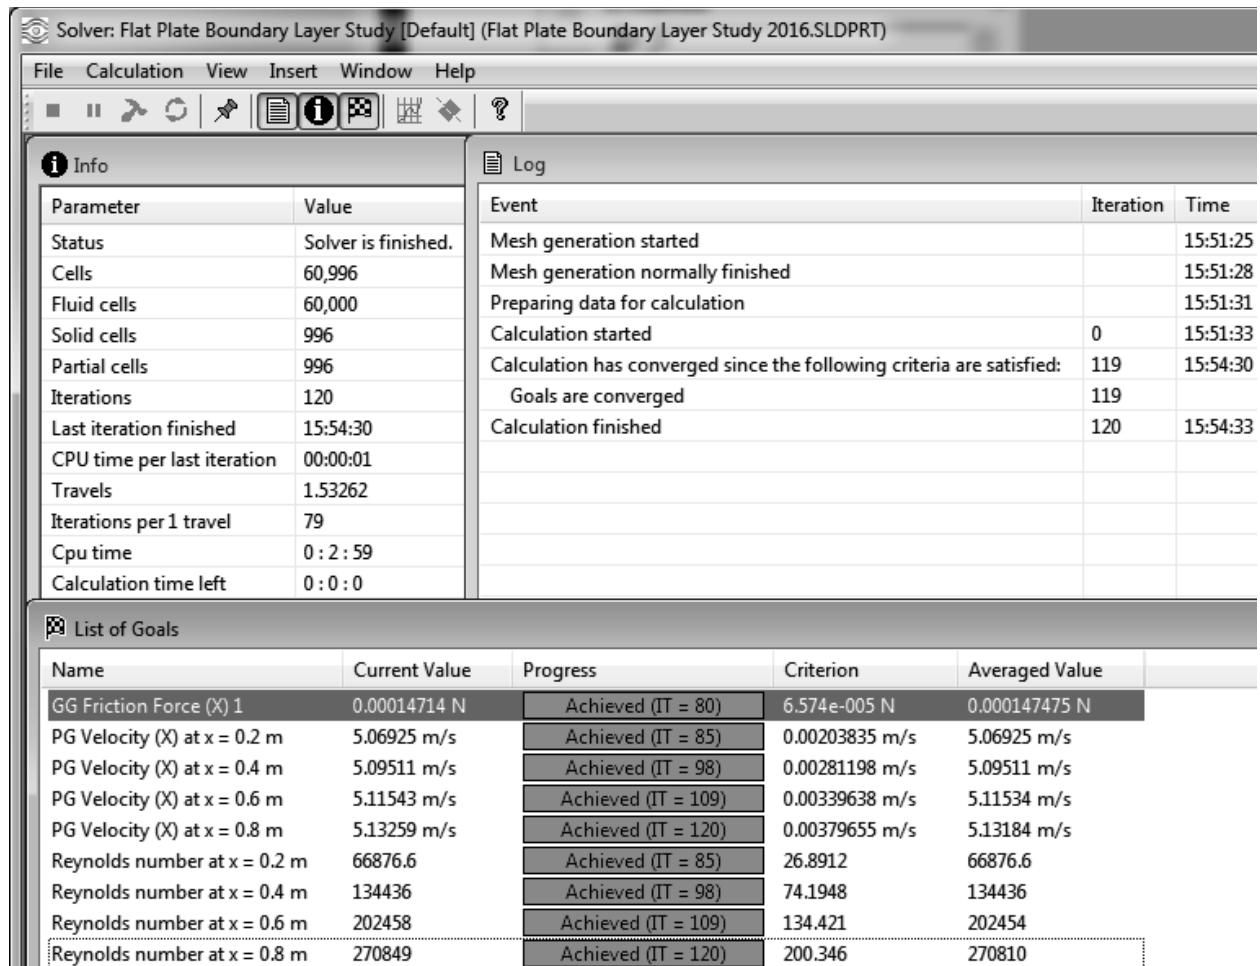
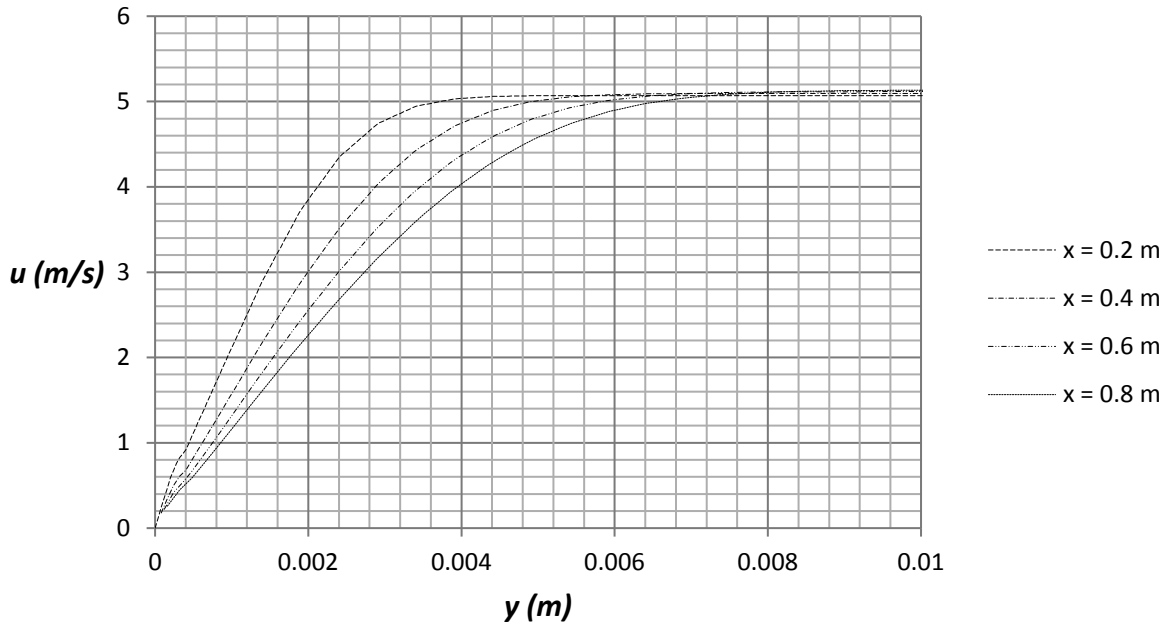
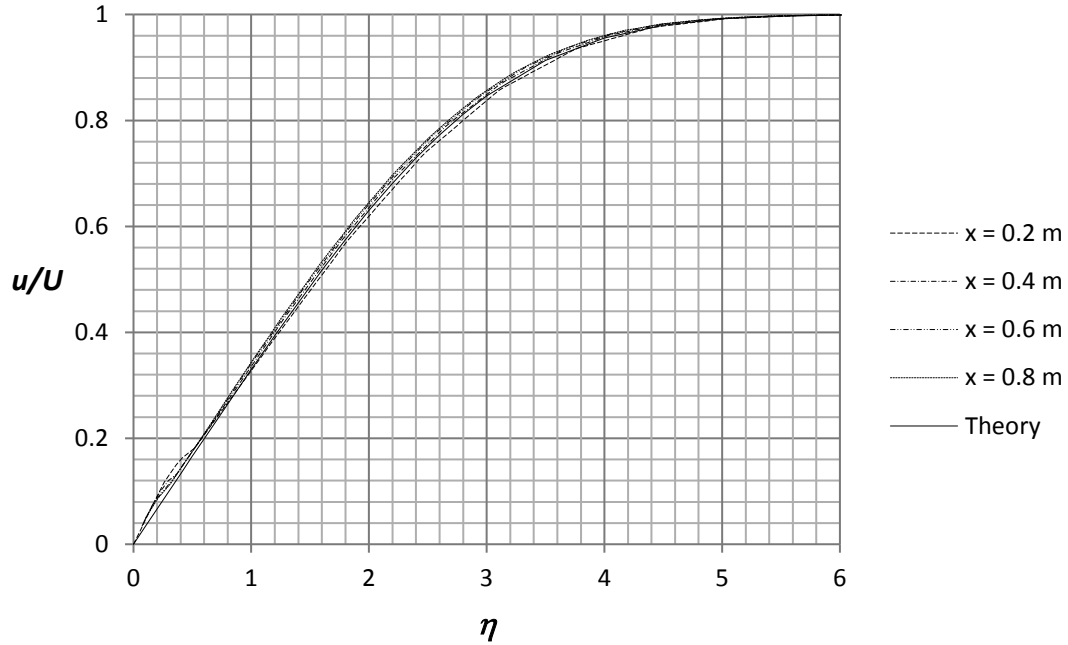
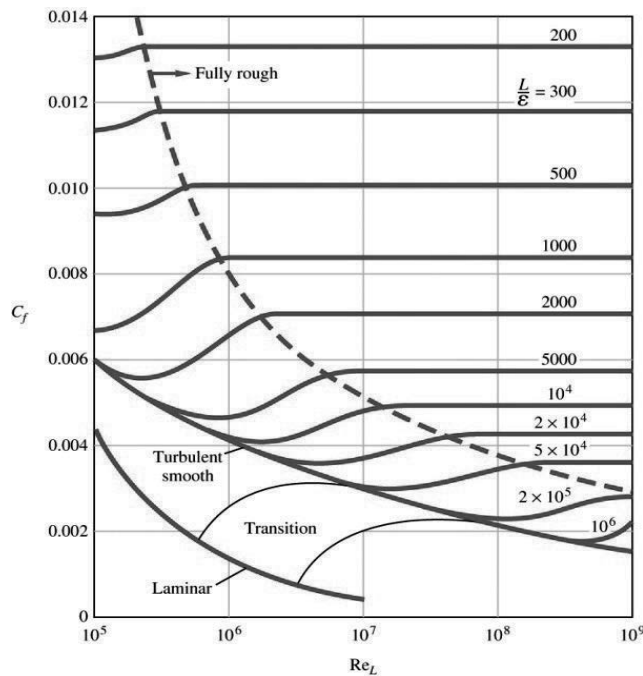

Figure 2.22c) Solver window
Figure 2.24c) Boundary layer velocity profiles on a flat plate at different streamwise positions
Figure 2.25a) Velocity profiles in comparison with the theoretical Blasius profile (full line)
Figure E3 Average friction coefficient for flow over smooth and rough flat plates, White (1999)
Select **Module1** in the **Modules** folder under **VBAProject (graph 2.24c).xism)**. Select **Run>>Run Macro** from the menu of the **MVB for Applications** window. Click on the **Run** button in the **Macros** window. Figure 2.24c) will become available in **Excel** showing the streamwise velocity component  $u$  (m/s) versus wall normal coordinate  $y$  (m). Close the **XY Plot** window and the **graph 2.24c)** window in **Excel**. Exit the **XY Plot** window in **SOLIDWORKS Flow Simulation** and rename the inserted xy-plot in the **Flow Simulation analysis tree** to **Laminar Velocity Boundary Layer**.
26. Place the file “**graph 2.25a**” on the desktop. Repeat step 24 to plot Figure 2.25a). Rename the xy-plot to **Comparison with Blasius Profile**.
We see in figure 2.25a) that all profiles at different streamwise positions collapse on the same Blasius curve when we use the boundary layer similarity coordinate.
From the data of figure 2.24c) we can see that the thickness of the laminar boundary layer is close to 3.80 mm at  $Re_x = 66,877$  corresponding to  $x = 0.2$  m. The free stream velocity at  $x = 0.2$  m is  $U = 5.069$  m/s, see figure 2.22c) for list of goals in solver window, and 99% of this value is  $U_\delta = 5.018$  m/s. The boundary layer thickness  $\delta = 3.80$  mm from Flow Simulation was found by
finding the  $y$  position corresponding to the  $U_\delta$  velocity. This value for  $\delta$  at  $x = 0.2$  m and corresponding values further downstream at different  $x$  locations are available in the Plot Data for Figure 2.25a). The different values of the boundary layer thickness can be compared with values obtained using equation (3). In table 2.1 comparisons are shown between boundary layer thickness from Flow Simulation and theory corresponding to the four different Reynolds numbers shown in figure 2.24c). The Reynolds number varies between  $Re_x = 66,877$  at  $x = 0.2$  m and  $Re_x = 270,849$  at  $x = 0.8$  m.
The average friction coefficient over the whole plate  $C_f$  is not a function of the surface roughness for the laminar boundary layer but a function of the Reynolds number based on the length of the plate  $Re_L$ ; see figure E3 in Exercise 8 at the end of this chapter. This friction coefficient can be determined in Flow Simulation by using the final value of the global goal, the X-component of the Shear Force  $F_f$ , see figure 2.22c, and dividing it by the dynamic pressure times the area  $A$  in the X-Z plane of the computational domain related to the flat plate.
The average friction coefficient over the whole plate  $C_f$  is a function of the surface roughness for the turbulent boundary layer and also a function of the Reynolds number based on the length of the plate  $Re_L$ ; see figure E3 in Exercise 8. This friction coefficient can be determined in Flow Simulation by using the final value of the global goal, the X-component of the Shear Force  $F_f$  and dividing it by the dynamic pressure times the area  $A$  in the X-Z plane of the computational domain related to the flat plate, see figure 2.28a) for the size of the computational domain.
- 2.8 Use different fluids, surface roughness, free stream velocities and length of the computational domain to compare the average friction coefficient over the entire flat plate with figure E3.